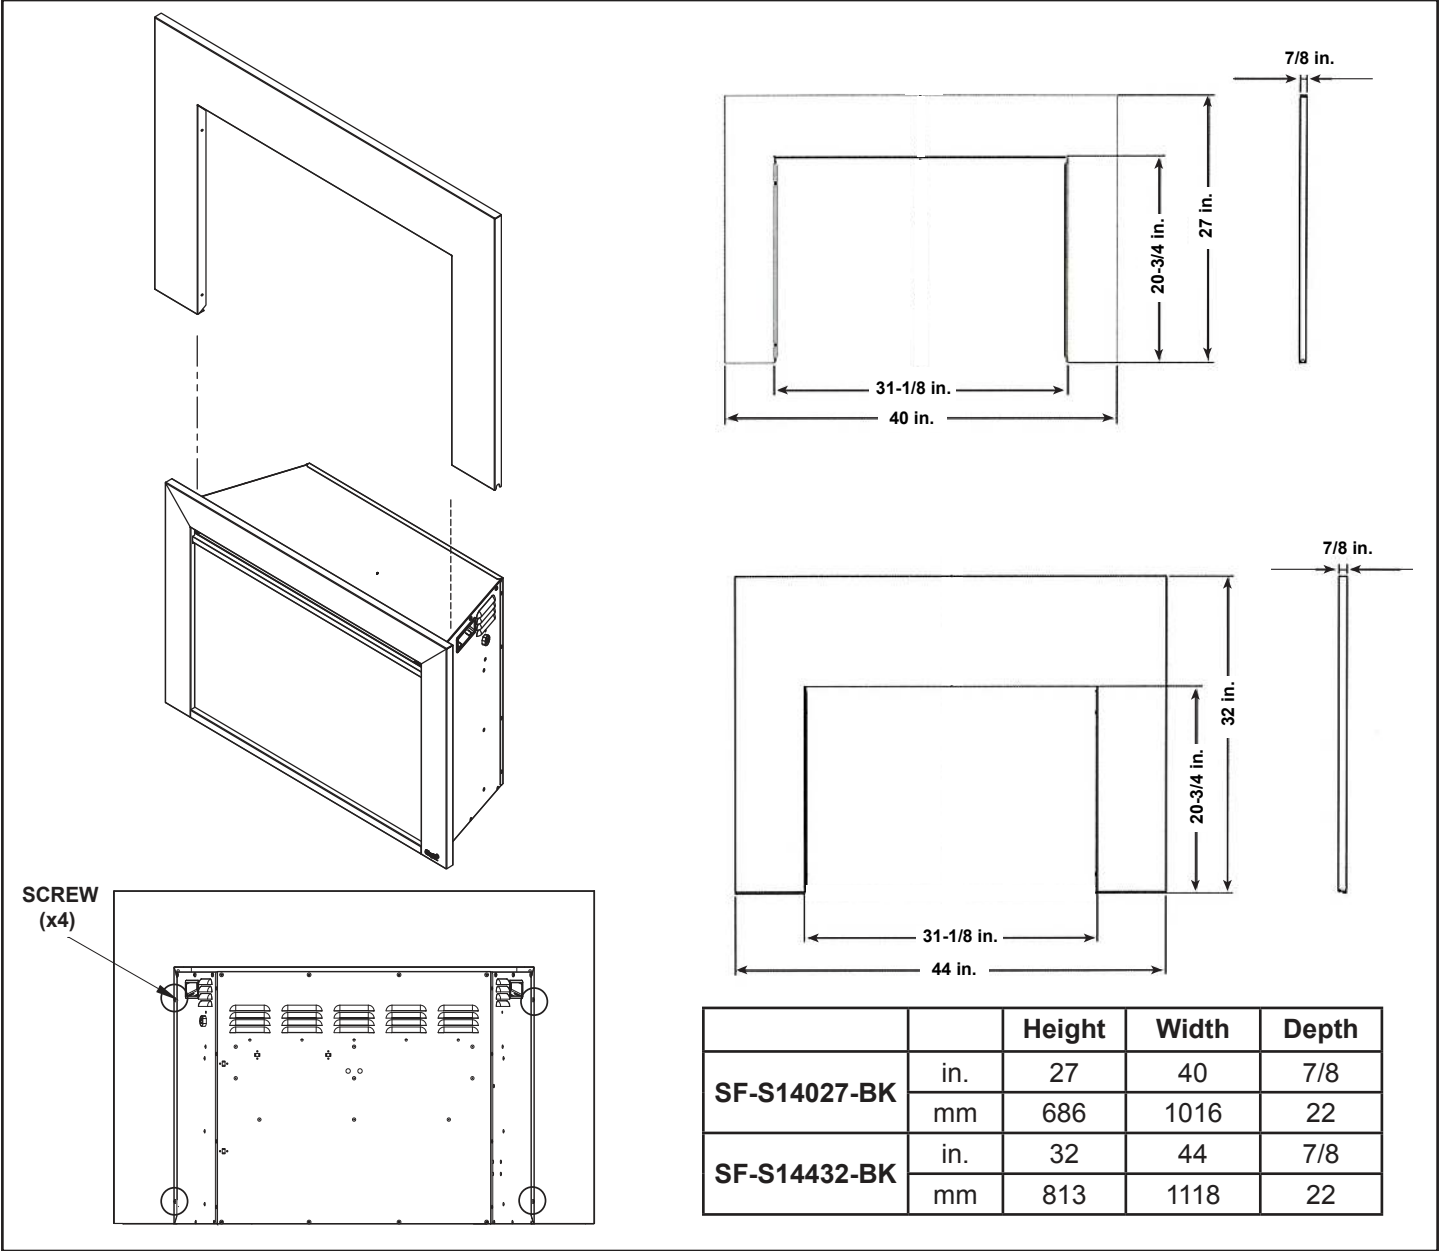

Figure 4.4 Surround Dimensions & Installation
- 4. Locate the surround on the appliance as shown in Figure 4.4 and attach it to the appliance with four screws removed in step 3.
Verify that the surround is securely attached to the appliance. See Figure 4.4.